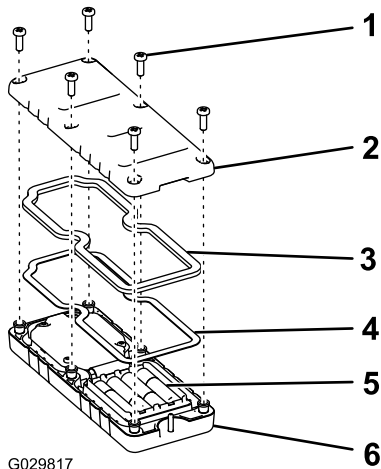

Figure 30
1. Remove the 6 screws from the back of the remote and remove the cover (Figure 30).
5. Replace the cover and secure it with the 6 screws removed previously (Figure 30) and torque them to 1.5 to 1.7 N·m (13 to 15 in-lb).